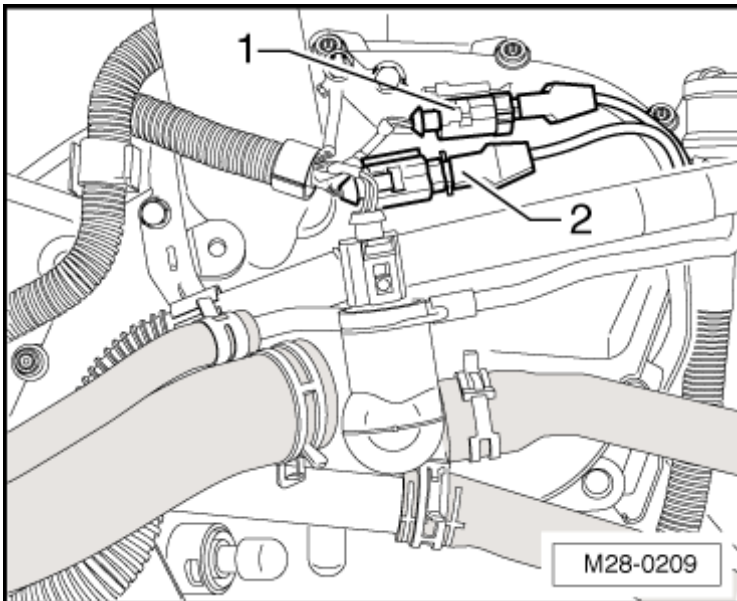

Fig. 7: Installation Position Of Harness Connectors For Knock Sensors
11. Knock Sensor (KS) 2 -G66-
- Installed location, refer to **Fig. 7**.